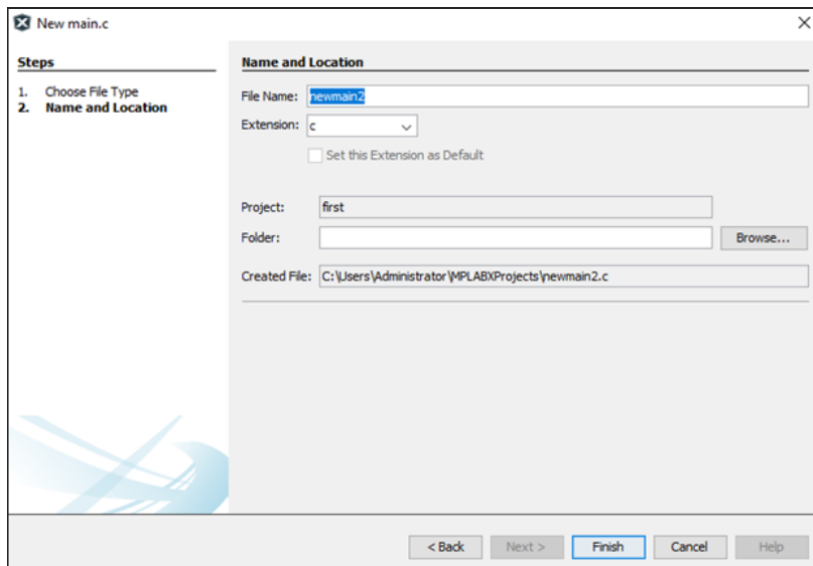

Fig 4.27 New main.c file steps window
23. A new main.c file steps window appears as shown in Fig 4.27 where you assign a file name, path etc.